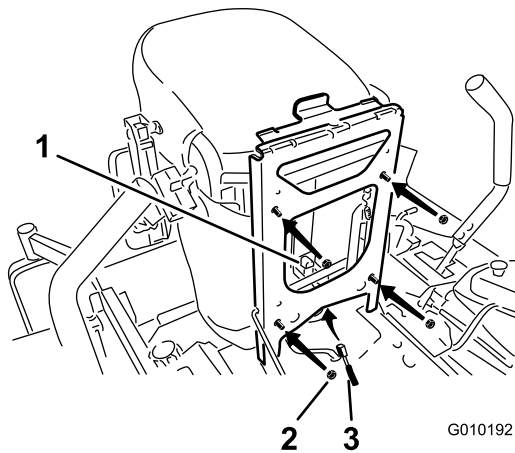

Figure 10
3. Install the seat to the seat frame with 4 flange nuts (3/8 inch) (Figure 10).